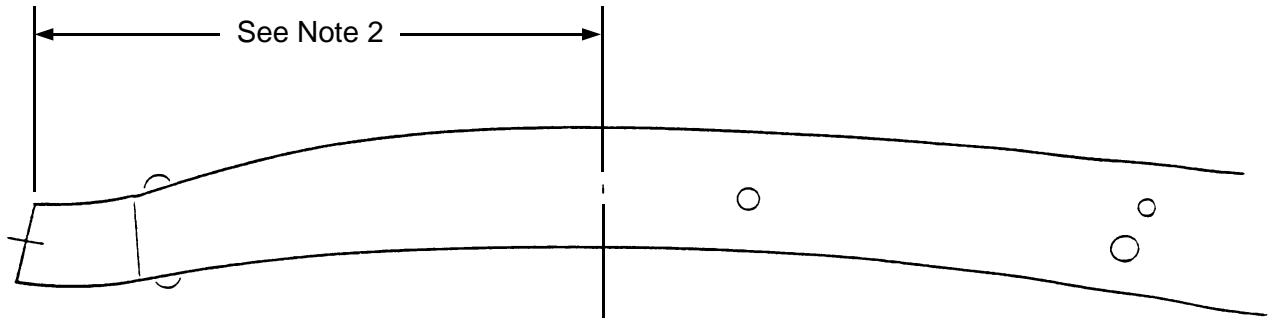

Figure 1
4. The front section of the frame should be boxed at this point, from approximately 6" forward of the axle centerline to a minimum of 18" back from the spindle centerline. For overall frame strength, it is recommended that the frame be boxed to the center x-member. Use 1/8" to 3/16" steel. Box the frame to an overall rail width of 2-3/8", including the boxing plates in the area of the new crossmember. Next, scribe a line around the frame rails at the spindle centerline as shown in Figure 1.